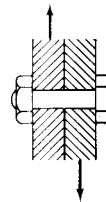

Fig. 2.24
9. What kind of force is there in the bolt shown in Fig. 2.24?